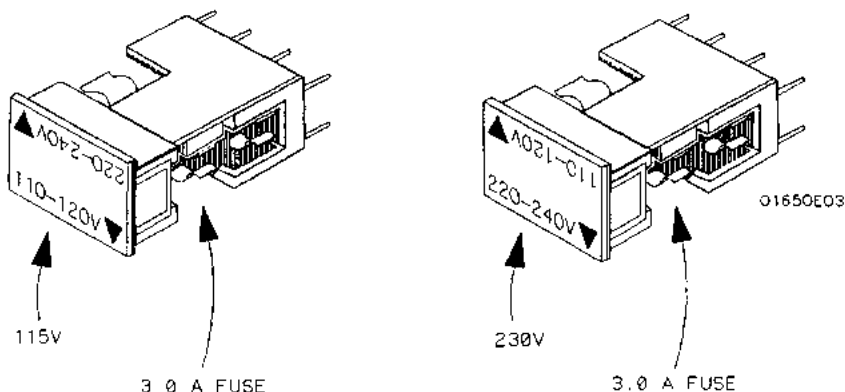

Figure 2-2. Fuse Module Settings
3. Reinsert the fuse module with the arrow for the appropriate line voltage aligned with the bar on the line filter assembly switch (see figure 2-2).